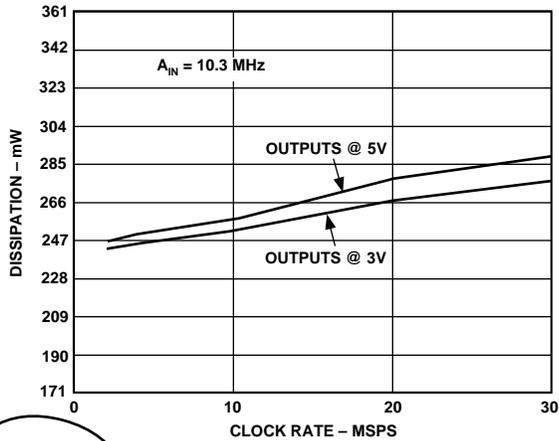

Figure 4. Power Dissipation vs. Clock Rate
- ⁵Power dissipation is measured at 30 MSPS with AIN of 10.3 MHz and digital outputs loaded with 10 pF maximum. See Figure 4 for power dissipation at other conditions.
As shown in Figure 4, the actual power dissipation varies based on these conditions. For instance, reducing the clock rate will reduce power as expected for CMOS type devices. Also the loading determines the power dissipated in the output stages. From an ac standpoint, the capacitive loading will be the key (refer to Equivalent Output Stage).
The dissipation in the output stages can be minimized by interfacing the outputs to 3 V logic (refer to USING THE AD9049, 3 V System). The lower output swings minimize consumption. Refer to Figure 4 for performance characteristics.